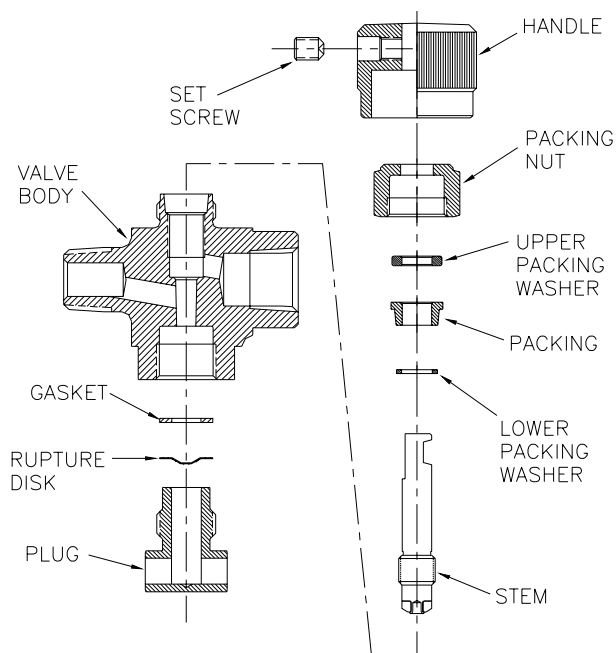

Figure 2: RVCK Series Valve w/
3. Refer to Figure 2. Remove the Handle by turning the Set Screw counter-clockwise with a 3/32 inch allen wrench.
4. Refer to Figure 2. Locate the Rupture Disc chamber. Install the PTFE Washer (which is packaged with the Rupture Disc) in the Rupture Disc chamber in the Body.
17. Refer to Figure 2. Stack the three Stem packing components on the Stem in the following order, with the first item being placed directly above the Stem threads:
21. Turn the Handle through at least one (1) “Open and Close” cycle to verify proper operation of the Stem’s threads.